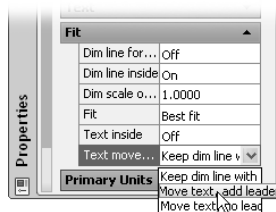

Figure 10.22
5. Click the arrow that appears next to the Keep Dim Line with Text listing to open the drop-down list; then select the Move Text, Add Leader option shown in Figure 10.22.